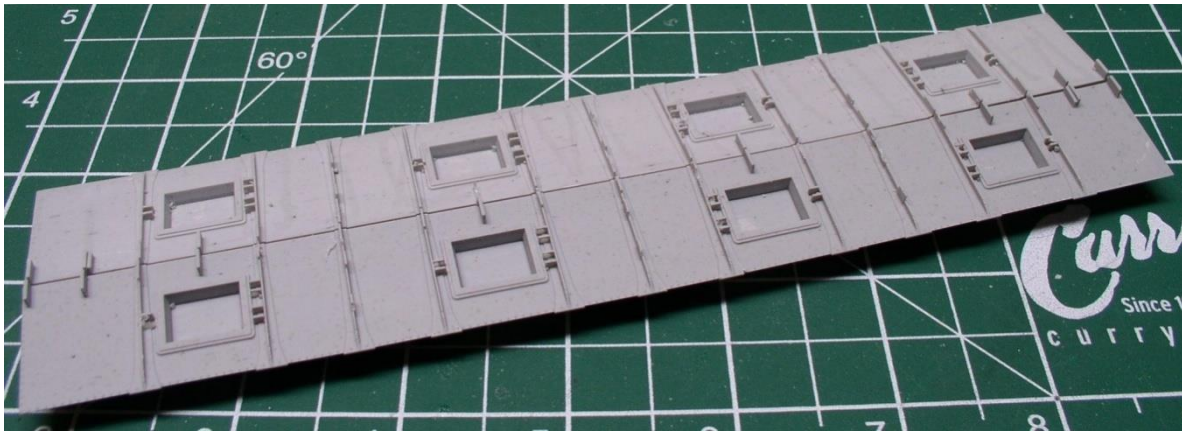

Figure R2
2. Line up the other roof half and glue in place. See Figure R2.